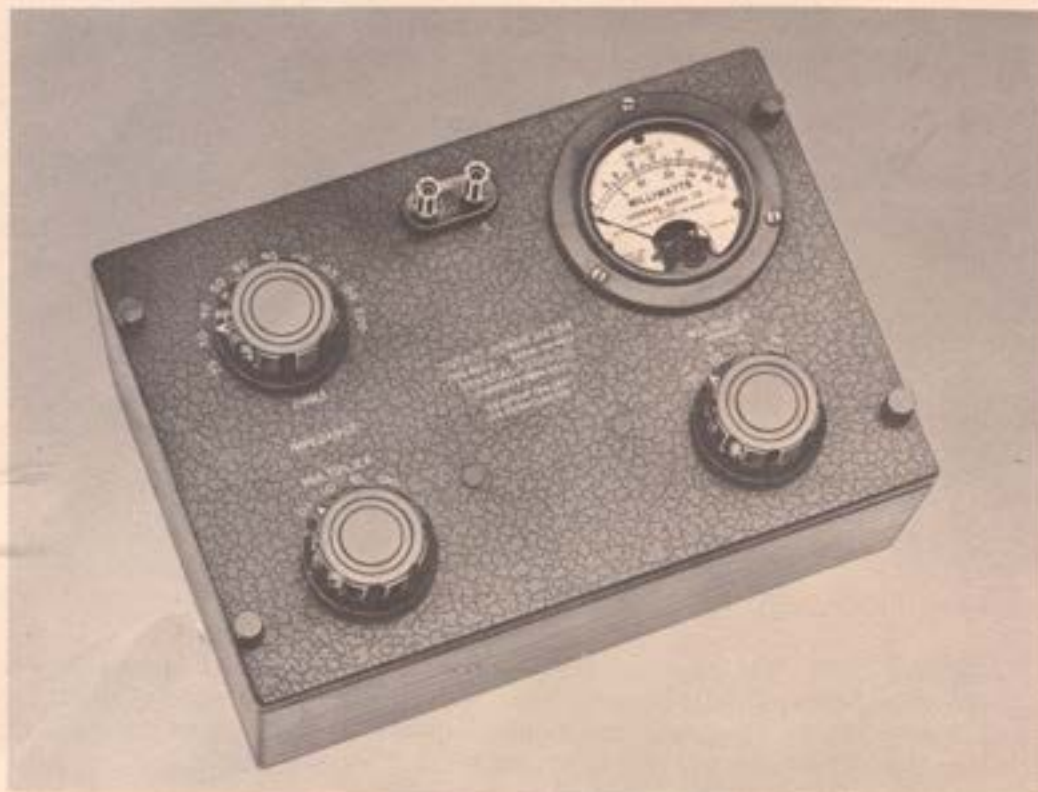

Figure 1. Type 583-A Output-Power Meter.
1.1 PURPOSE. The Type 583-A Output-Power Meter (Figure 1) gives a direct indication of the power output of audio-frequency circuits, and can be used to test amplifiers, transformers, oscillators, filters, and similar networks. The Output-Power Meter can also be used to measure the effect of load impedance on power delivered, and the characteristic impedance of telephone lines, phonograph pickups, oscillators, and similar equipment can be found by determination of the impedance that gives maximum power output. In the testing of radio receivers, the Output-Power Meter is very useful as an output indicator for standard selectivity, sensitivity and bandwidth tests; an auxiliary decibel scale is furnished on the meter for this purpose.